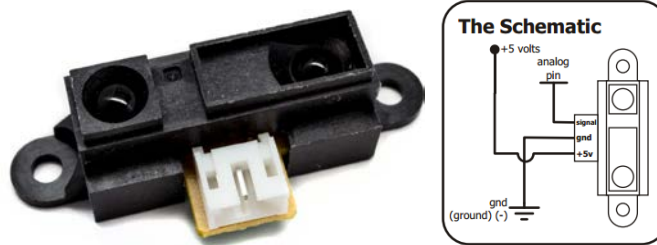
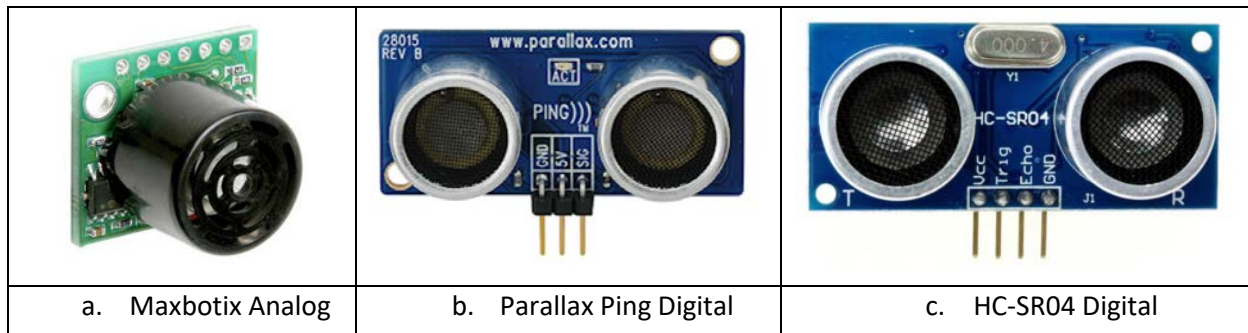

Figure 2: Sharp IR Sensor Pin Out
Figure 3: Sonar Sensor Types
switch) on the breadboard. BE CAREFUL! If you connect the sensor to the wrong power buss you could damage it! Figure 2 shows the pinout for the Sharp IR sensor.
2. Attach at least one digital sonar sensor to your robot and connect the white signal line to one of the analog pins on the microcontroller (A0-A15). *Note that you can use the analog pins whether you have a digital or analog sonar sensor.* **Connect the black wire to the ground buss (blue line) on the breadboard. Connect the red wire to the 5V buss (red line closest to power switch) on the breadboard. BE CAREFUL! If you connect the sensor to the wrong power buss you could damage it!** Figure 2 shows the pinout for the Sharp IR sensor. For now use masking tape to attach the sensor, after you are sure where you want to mount it, go see the ECE technicians to permanently mount it if you don't have a screwdriver, screws, or the required holes in the chassis. Figure 3 shows the various sonar sensors. If you have a sensor with 4 pins, simply tie the trigger and echo pins together.